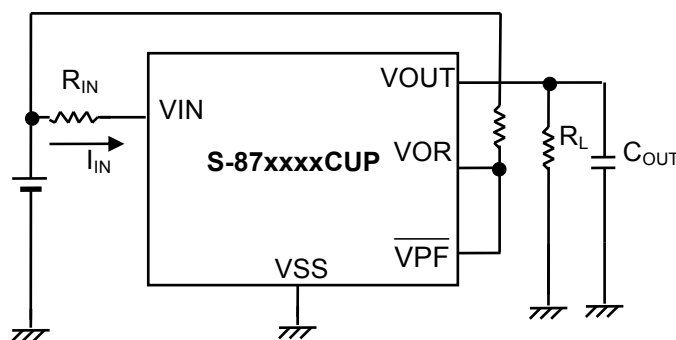

Figure 23 Attention connecting example 1
**Caution 1.** As shown in Figure 23 to 25, when connecting VOR output to  $\overline{\text{VPF}}$  pin in the C type or connecting SENSE pin to VIN pin in the E type, the following phenomena occur if resistor (RIN) is connected between input voltage and VIN pin. Be careful.
- (1) At the time of voltage detection, the voltage regulator is shutdown and load current is cut. Therefore, VIN pin voltage increases by  $\Delta V_{IN} = I_{IN} \times R_{IN}$ , where the current flowing into RIN is set to IIN. Hence, if  $\Delta V_{IN}$  exceeds hysteresis width (VHYS), oscillation starts immediately after detection and continues. It is necessary to set  $\Delta V_{IN}$  less than VHYS.